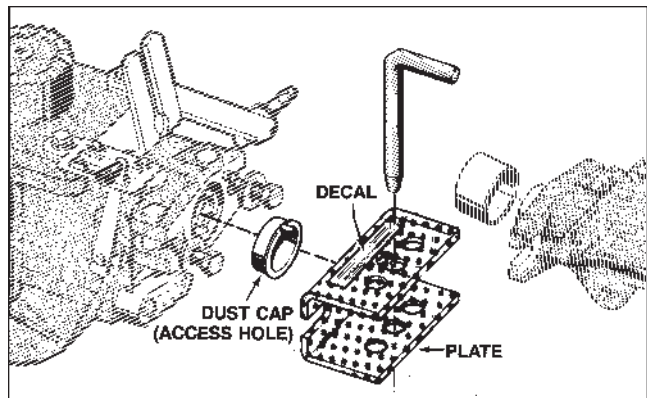

Figure 2: Insert both dust caps.
B. Insert the smaller, 1- $\frac{1}{2}$ " dust cap into the PTO access hole, as shown in Figure 2, whenever the Power Unit is detached from the Tine Attachment. With the dust cap in place, the access hole is protected from the entry of dust, dirt and moisture. The dust cap may remain in place for the operation of non-powered attachments such as the Tow Hitch. It must, however, be removed before attaching the Tine Attachment or other powered attachments.
C. The larger 1- $\frac{3}{4}$ " dust cap should be placed over the protruding end of the Tine Attachment dog clutch coupling whenever the Tine Attachment is not being used. This dust cap protects the coupling from dust, dirt, and moisture. Proper placement of this dust cap is shown in Figure 2. It must be removed before the Tine Attachment is connected to the Power Unit.